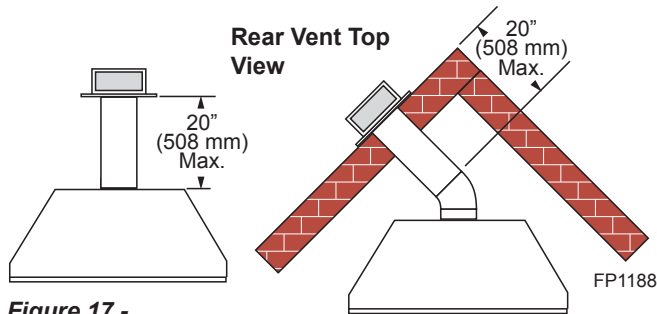

Figure 17 -
- The maximum horizontal distance between the rear of the appliance (or end of the transition elbow in a corner application) and the outside face of the rear wall is 20" (508 mm). *Figure 17*
Measure the horizontal length requirement for the venting including a 2" (51 mm) overlap, i.e. from the elbow to the outside wall face plus 2" (51 mm). *Figure 17*